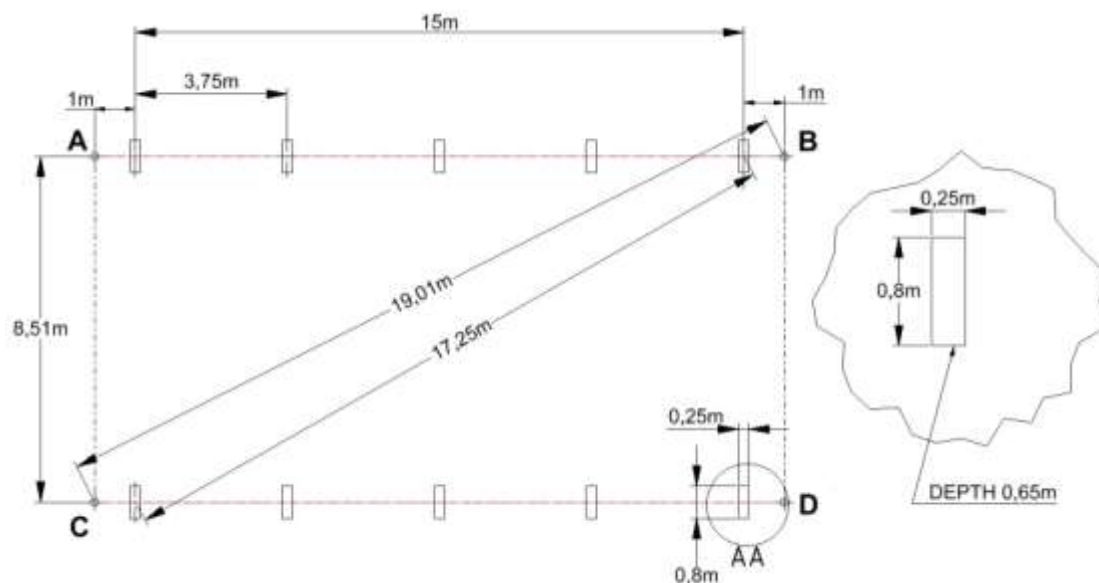

Figure 1: Digging holes
1. Examine Figure 1. Set out marking stakes at points A, B, C, and D. You will leave these stakes in place during the entire construction process.